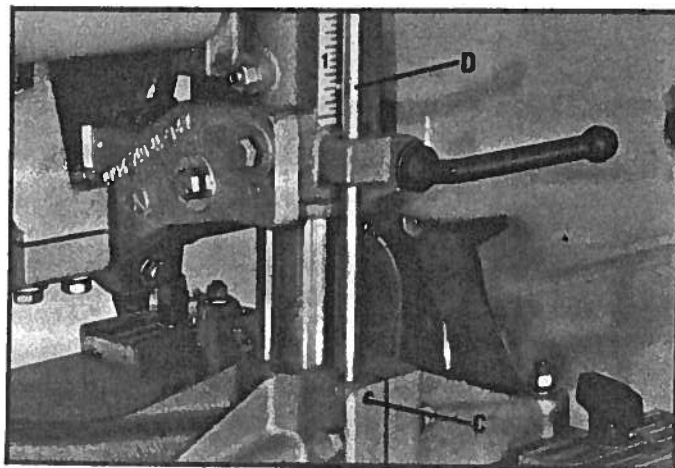

Fig. 25
2. Loosen set screw (C) Fig. 25, and adjust pointer (D) to same measurement as in STEP 1.
3. Tighten set screw (C) Fig. 25.